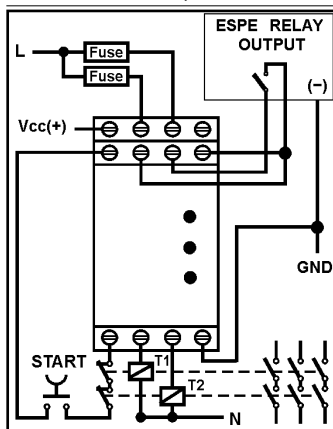

Fig. 10: ESPE: 1 uscita a relè a 2 fili /
- ESPE with one relay two-wires output: connect the output wires to the S12 and S22 terminals; short-circuit S12 with S21, leaving S11 not connected (fig. 10 max. Safety cat. 2).